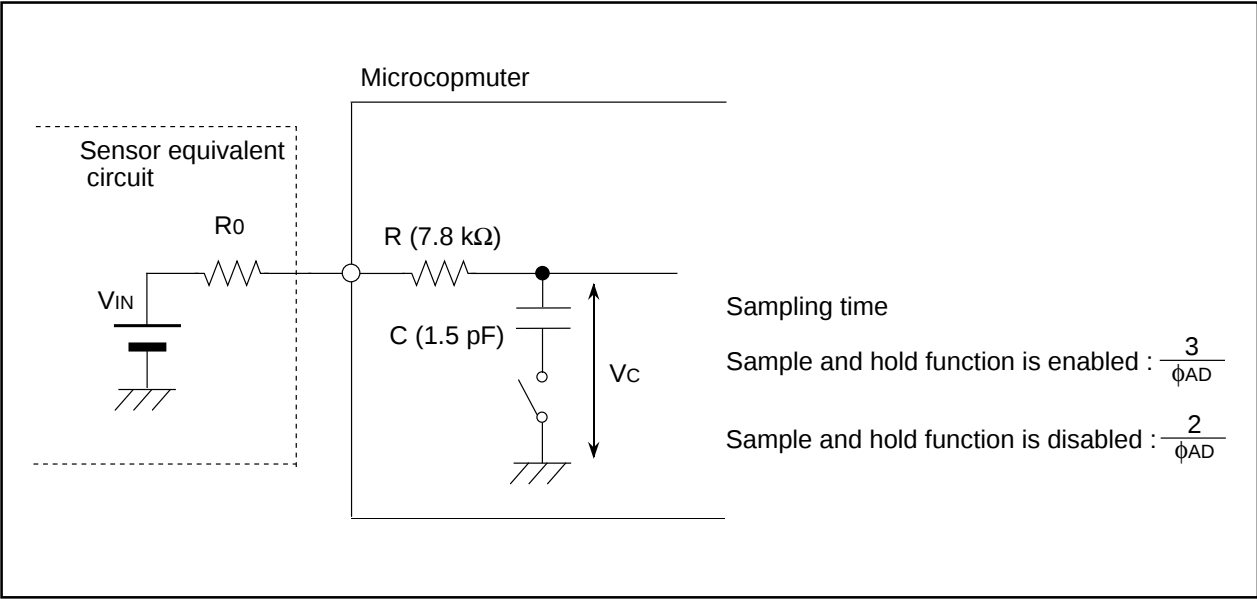

Figure 17.8 Analog Input Pin and External Sensor Equivalent Circuit
For perfect A/D converter performance, complete internal capacitor (C) charging, shown in Figure 17.8, for the specified period (T) as sampling time. Output Impedance of the sensor equivalent circuit (R₀) is determined by the following equations:
Figure 17.8 shows analog input pin and external sensor equivalent circuit. The impedance (R₀) can be obtained if the voltage between pins (V_c) changes from 0 to V_{IN} - (0.1/1024) V_{IN} in the time (T), when the difference between V_{IN} and V_c becomes 0.1LSB.